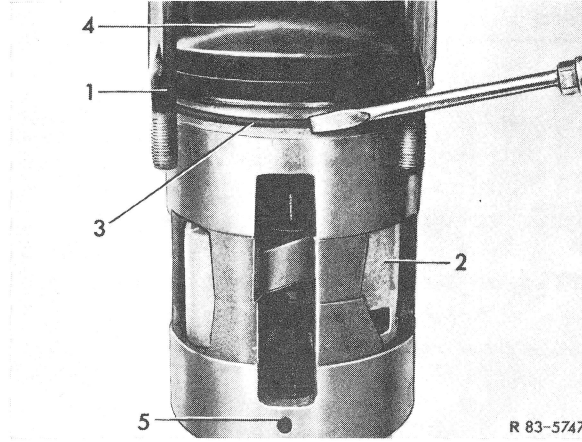

Figure 10
- 27** Coat inside surface of compressor housing with refrigeration oil and then slide housing over internal mechanism until it comes to rest on sealing ring (3) (Fig. 10).
- 28** Carefully press sealing ring (3) in around circumference of internal mechanism (2) until compressor housing (1) slides down over internal mechanism. Align oil sump (4) with bore (5) when housing slides down (Fig. 10).